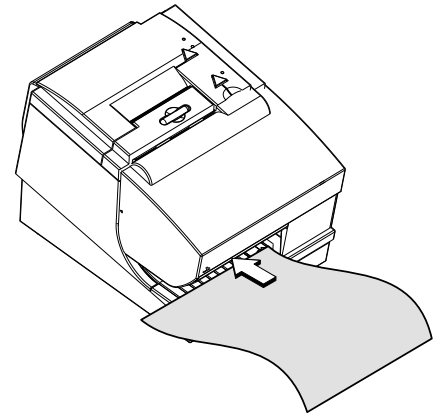

Figure 25. Inserting documents from the side
1. Press the **A** and **B** button at the same time (see Figure 25). When you press both button at the same time and then release, the document insert throat opens.